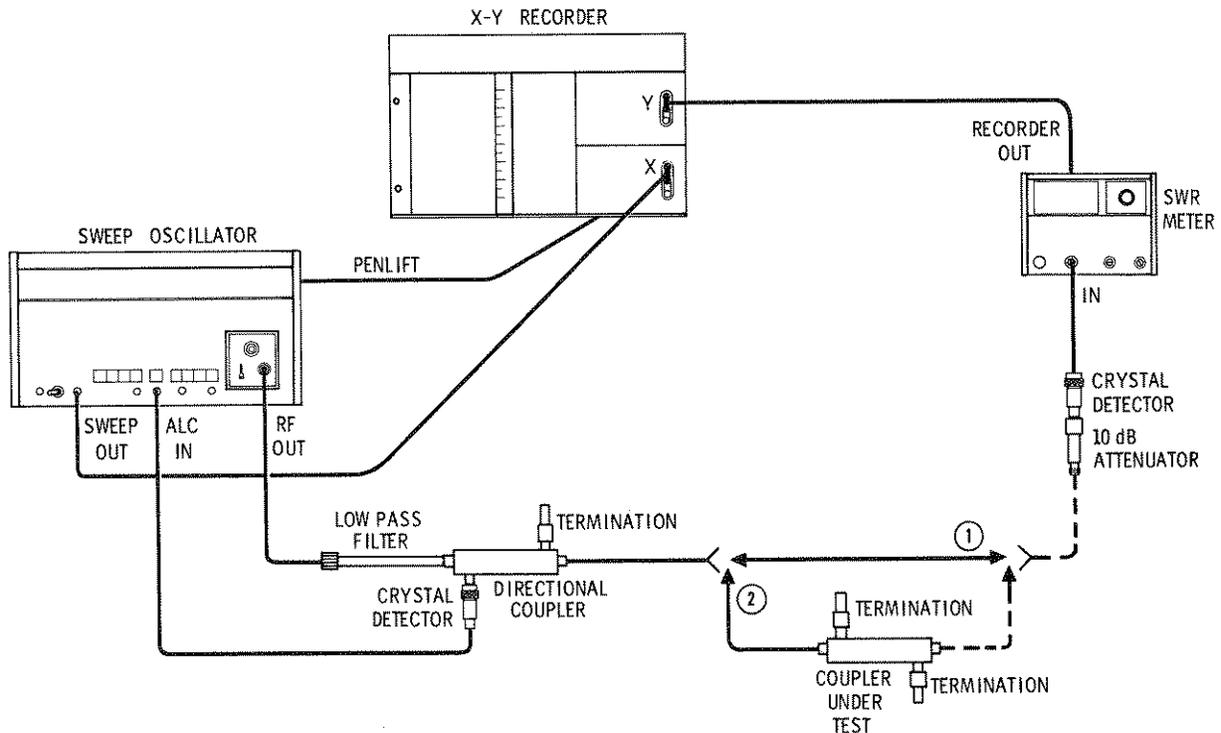

Figure 13. Insertion Loss Test Setup
To test a 774D use another good 774D as the directional coupler in Figure 13. To test a 775D use a good 775D.
- a. Connect the equipment as at ① in Figure 13.
1. Connect the coupler under test as shown at ② in Figure 13.